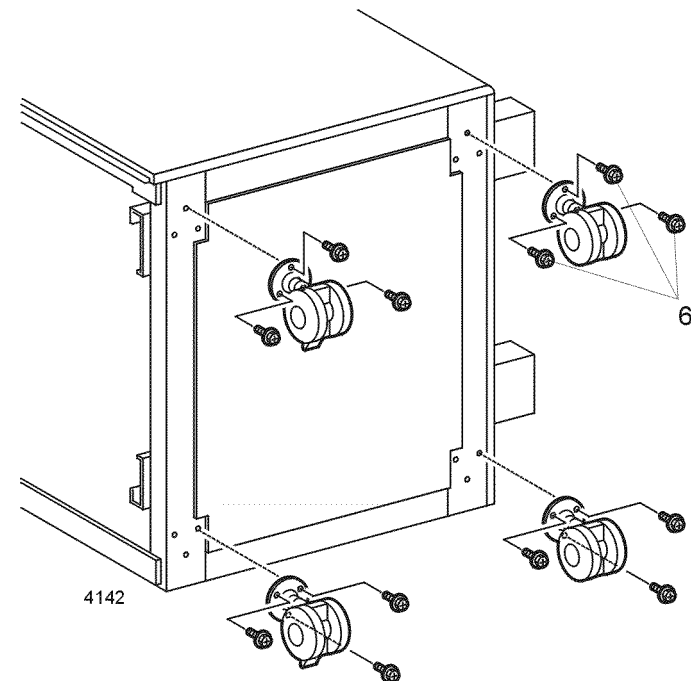

Figure 1 Casters
5. Tilt the 2000 Sheet Feeder onto its left side (Figure 1).
6. Remove the three screws that secure the defective caster (Figure 1).